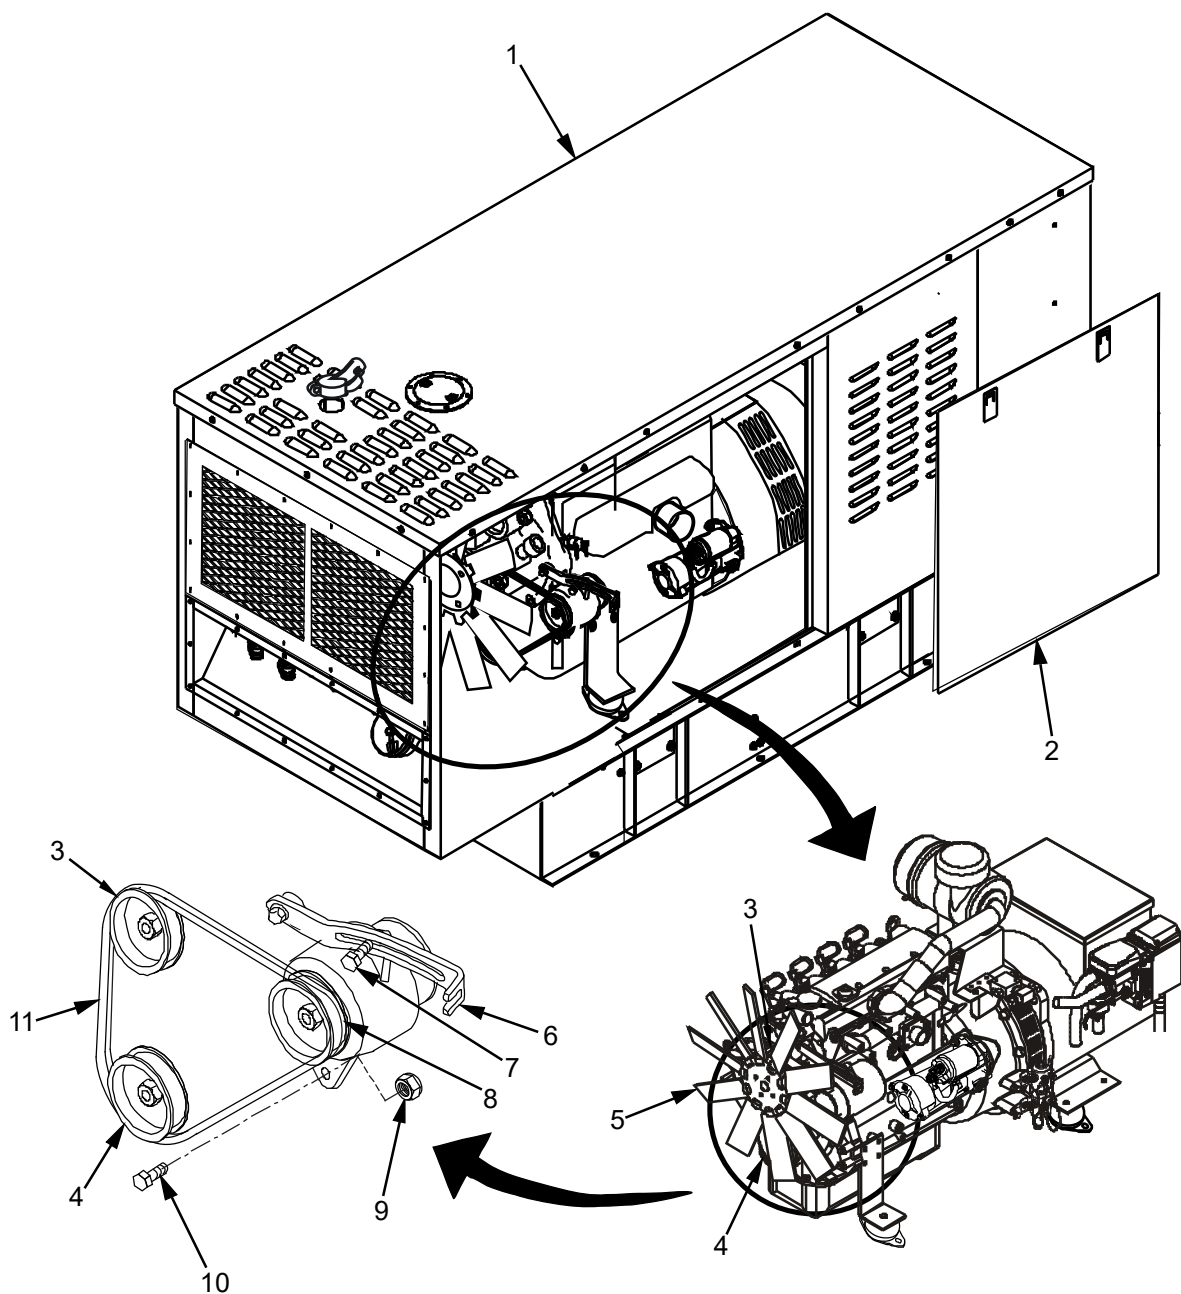

Figure 1. Fan Belt - Inspect.
7. Remove fan belt (Figure 1, Item 11) from alternator pulley (Figure 1, Item 8), crank shaft pulley (Figure 1, Item 4), water pump pulley (Figure 1, Item 3), and place onto fan neck.
8. Push fan belt (Figure 1, Item 11) into fan shroud and slide fan belt (Figure 1, Item 11) under lowest fan blade.
9. Rotate the fan blades (Figure 1, Item 5), sliding fan belt (Figure 1, Item 11) under each fan blade (Figure 1, Item 5) until fan belt (Figure 1, Item 11) is released.
- Inspect water pump (Figure 1, Item 3), crank shaft pulley (Figure 1, Item 4) and alternator (Figure 1, Item 8).
1. Insert new fan belt (Figure 1, Item 11) into fan shroud to allow fan belt (Figure 1, Item 11) to fit over fan blade.
2. While rotating fan blades (Figure 1, Item 5), slide fan belt (Figure 1, Item 11) under fan blades (Figure 1, Item 5) until fan belt (Figure 1, Item 11) is around fan neck.
3. Mount fan belt (Figure 1, Item 11) onto grooves of water pump (Figure 1, Item 3) and crank shaft pulley (Figure 1, Item 4).
4. Mount fan belt (Figure 1, Item 11) onto alternator pulley (Figure 1, Item 8).
7. Replace front access panel (Figure 1, Item 2) on Genset (Figure 1, Item 1).
9. Start Genset (Figure 1, Item 1) in accordance with WP 0005, Genset Start Procedure.